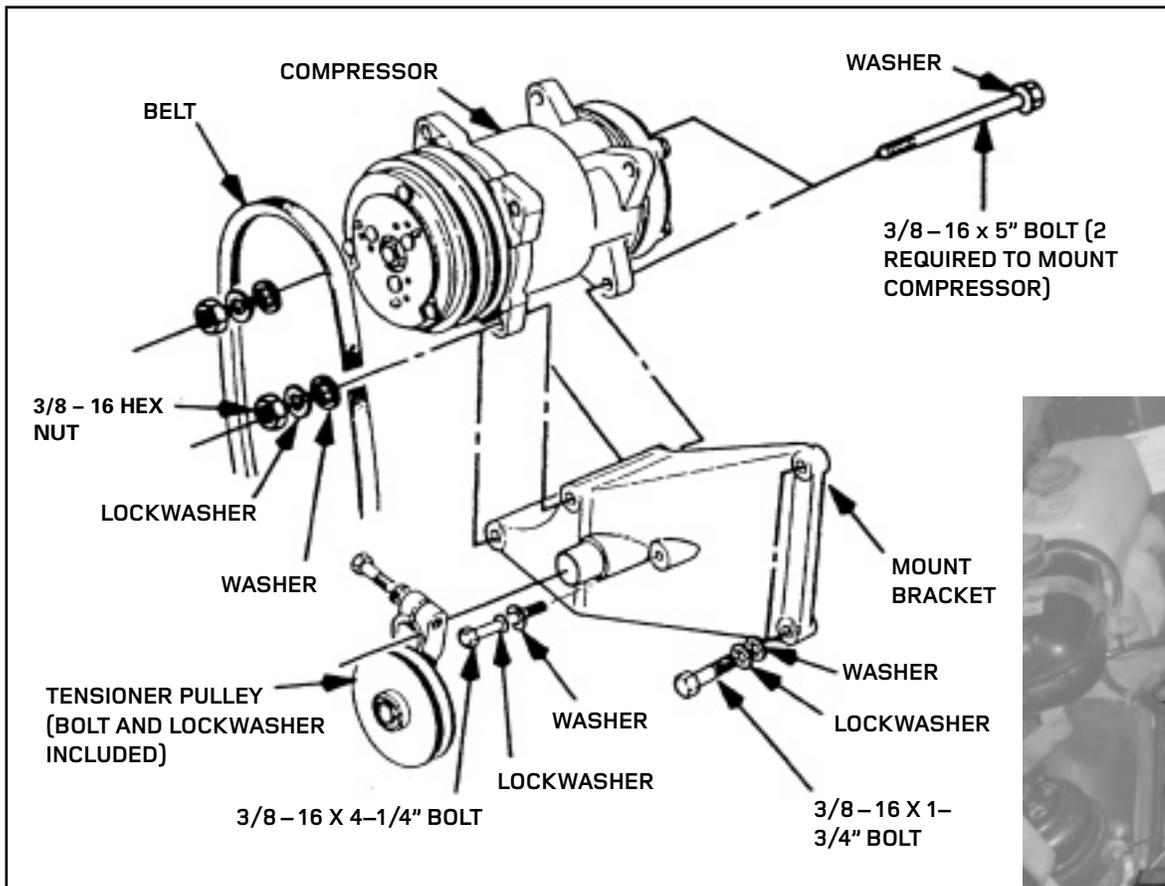

FIGURE 3
15. **Assemble compressor to mount bracket** using two (2) 3/8 x 5" bolts with flat and lock washers (see figure 3, page 4). **NOTE:** For 1997 Defender NAS 90 4.0 Litre V8, see figure 10, page 11.